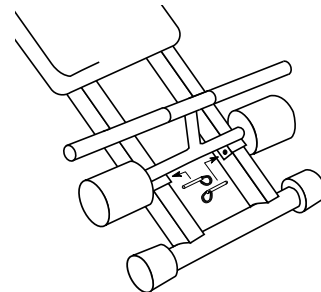

FIGURE 4
3. Insert the 2 Large Hitch Pins through the holes on the Multi Function Attachment Brackets and the hole on the Rails, as shown in Figure 4.